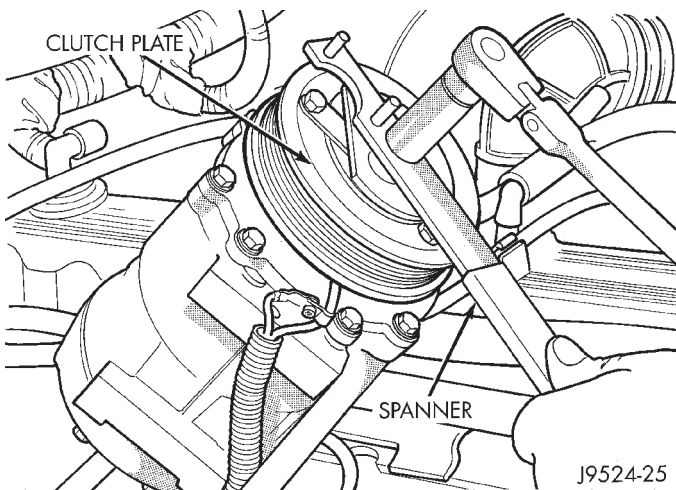

Fig. 19 Clutch Nut Remove
- (1) Disconnect and isolate the battery negative cable.
- (2) Remove the serpentine drive belt. Refer to Group 7 - Cooling System for the procedures.
- (3) Unplug the compressor clutch coil wire harness connector.
- (4) Remove the four bolts that secure the compressor to the mounting bracket.
- (5) Remove the compressor from the mounting bracket. Support the compressor in the engine compartment while servicing the clutch.
- (6) Insert the two pins of the spanner wrench (Special Tool C-4489) into the holes of the clutch plate. Hold the clutch plate stationary and remove the hex nut (Fig. 19).